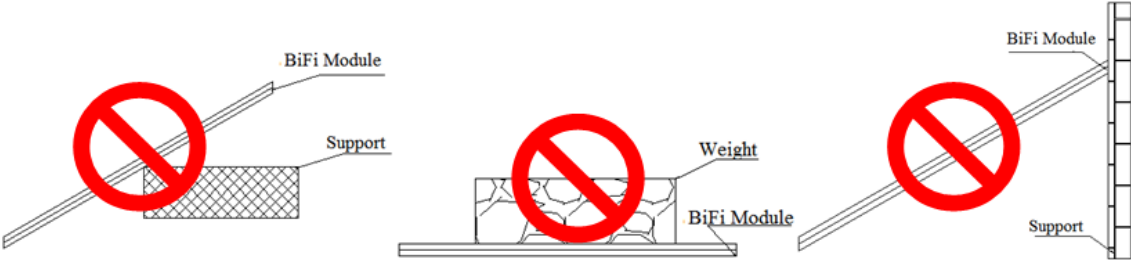

Figure 3 Modules stack illustration
6.1.5 Unpacking the package should refer to the following instructions as Figure 3, Any rude operation or use crowbar unclench into the boxes are prohibited. Pay attention to personal safety and modules safety when using tools.